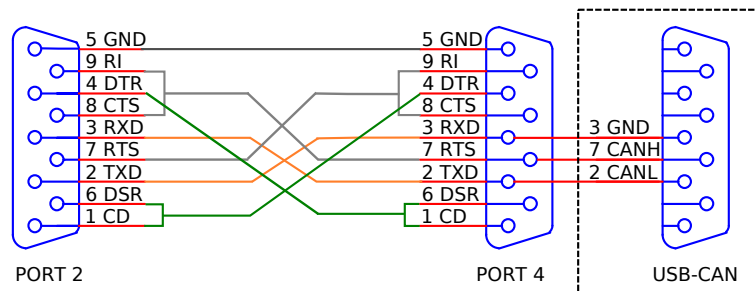

Figure 35: Serial Test Cable Wiring
To test the serial port you will need a special null-modem cable. Following pinout will be used (see Table 8 and Figure 35 without USB-CAN connector):
- modified null-modem cable to connect PORT2, PORT4 and USB-CAN together (see Figure 35). Ports 1 and 3 will be connected with the same cable but without connector for USB-CAN